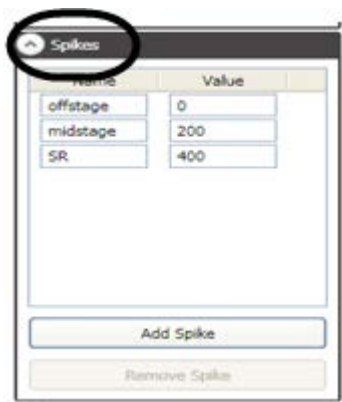

Figure 227
2. Go to the **Spikes** section of the **Motor Editing Pane** (Figure 227).